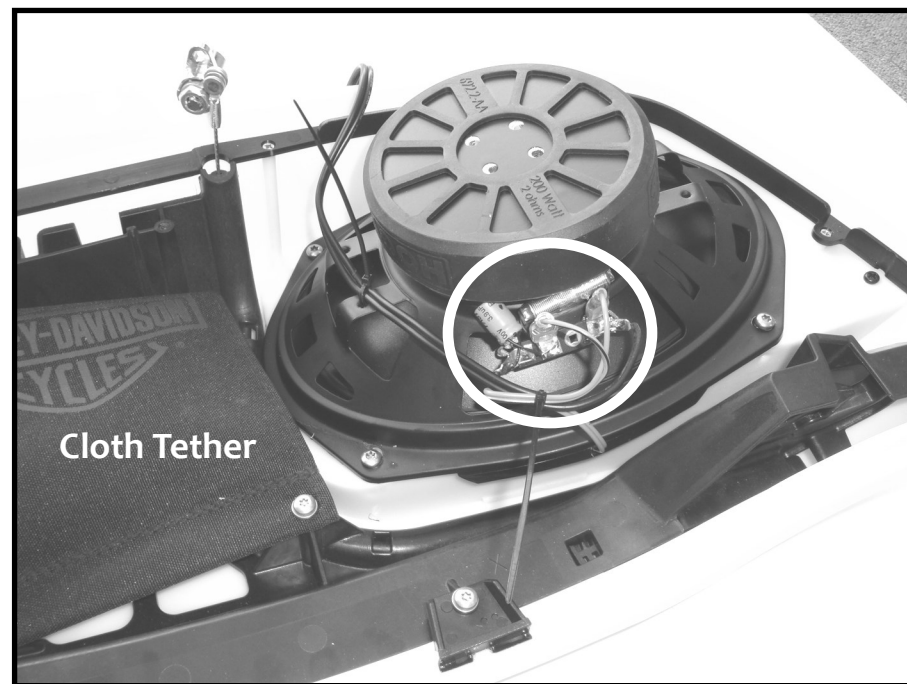

Fig 1.6
**Mounting the speakers:** Most car speakers have the connectors on one side as shown by the white circle in Fig 1.6 (below). If yours are like this, sit the speaker in place so it is oriented as shown below . If your speakers connectors are on an "end", sit the speaker on the lid so the connectors sit closest to the factory cloth tether. The lids come supplied with silver #8-18 coarse thread screws, with 3/4" (12mm) thread which will secure many speakers nicely. Depending on the speaker you are using ,you may need to use longer screws. Do not use too long a screw as you may pierce the top side of the lid! Also, you will see that 2 of the speaker screws also go up into bosses and secure the grill to the bike. Do not use wider screws as you may destroy the grills bosses and your grills will not be secured. PIERCING THE LID OR DESTROYING THE GRILL BOSSES IS NOT COVERED BY WARRANTY.